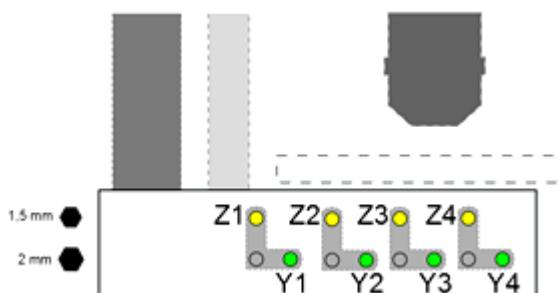

Figure 2-17: Adjustment screws
- Set the sheet width to the minimum. Both lateral beams should be directed to the centre of the mask. If this is not the case, the position in the Y direction must be adjusted (Y2 for mirror No. 2 and Y4 for mirror No. 4, Fig. 2-17). Use a 2 mm Allen key.
- Now adjust the height of both beams sequentially to the centre of the pinhole in the mask, using the μm -screws (Z2 for mirror No. 2 or Z4 for mirror No. 4, Fig. 2-17).